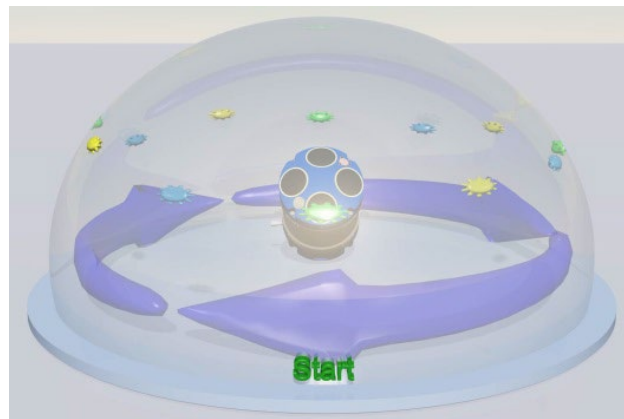

Figure 59. Calibrating the Compass
- Place the ADCP on the Compass Calibration Guide in the same orientation as it will be deployed (i.e. up or down) (see Figure 59). Each of the 12 steps has two parts: rotate the ADCP so that beam 1 is pointed toward the correct angle, and then tilt the ADCP 40 degrees for steps 1 through 4 and 65 degrees for steps 5 through 12.